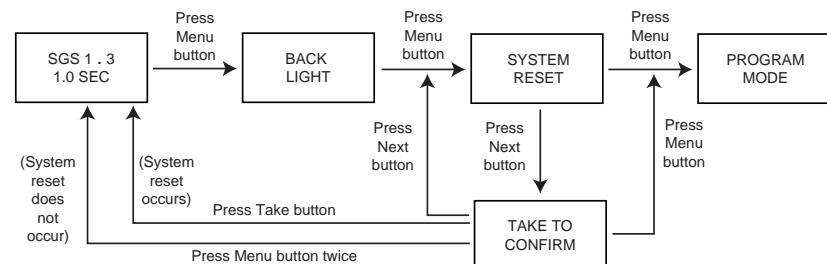

Figure 3-4 — Performing a system reset
1. From the default screen, press the Menu button twice. The System Reset menu appears (figure 3-4).